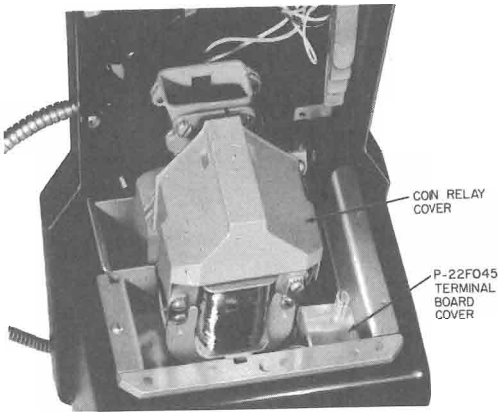

Fig. 11—Installation of Coin Relay Cover and Terminal Board Cover
4.05 Install coin relay cover and P-22F045 terminal board cover (Fig. 11).